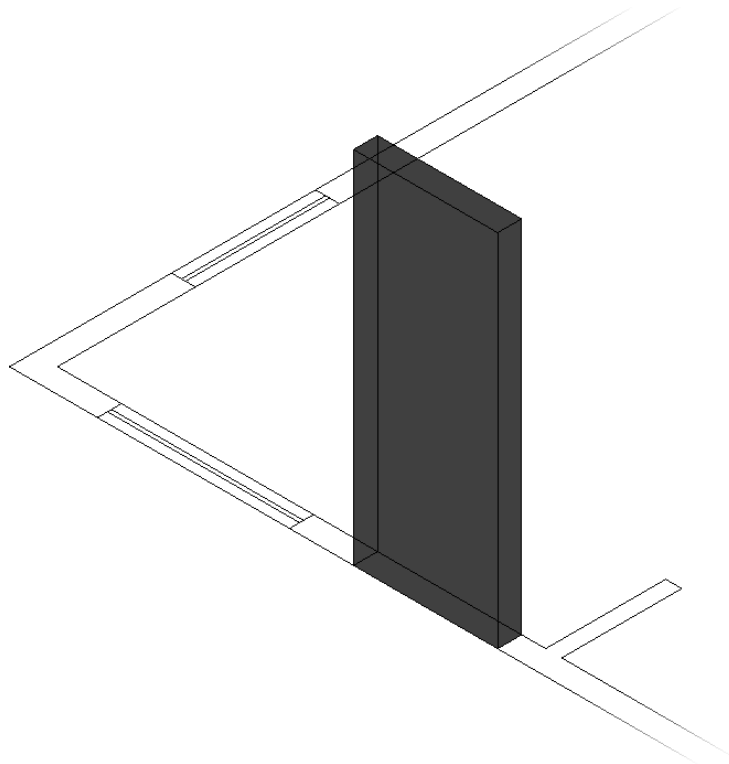

FIGURE 16.14: The first door operand created in place
8. At the Specify height or [2Point]: prompt, enter **7'6.↓ (2286.↓)**. The box appears in place (see Figure 16.14).